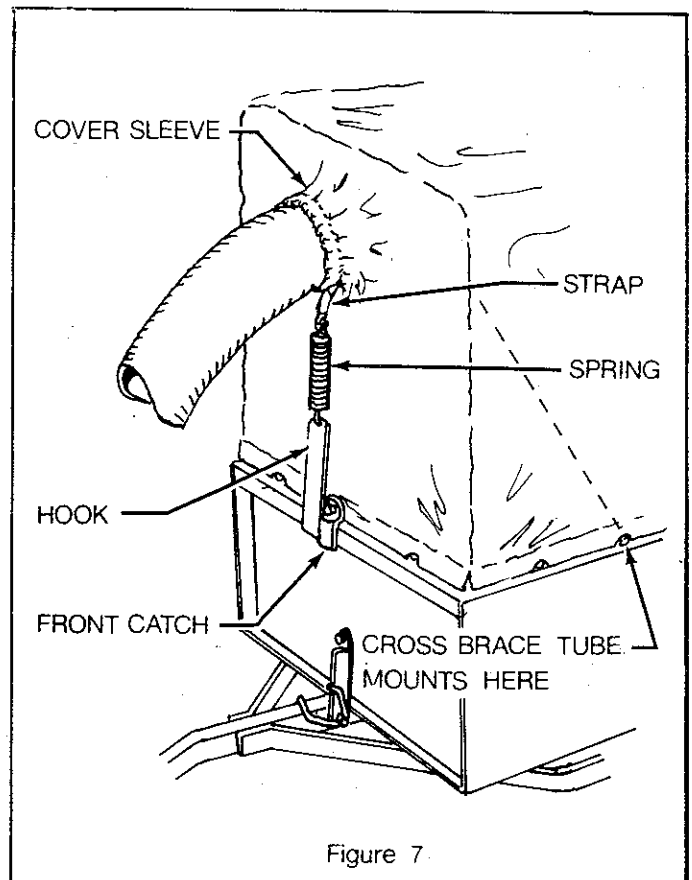

Figure 7
2. Install the front catch using a 3/8-16 x 1" capscrew, flatwasher and locknut. Tighten the locknut so that it will hold securely but still allow the catch to pivot. (Figure 7.)
4. Secure the four crossbrace tubes with the hardware attached (Figure 7).
7. Place the 6" diameter hose in the cover sleeve and tighten the strap in the sleeve (Figure 7).
8. Secure one end of the spring to the strap in the cover sleeve by knotting the end of the strap to the spring. Insert the other end of the spring through the hole in the end of the hook. Then place the hook over the lip on the front of the dump cart body (Figure 7).